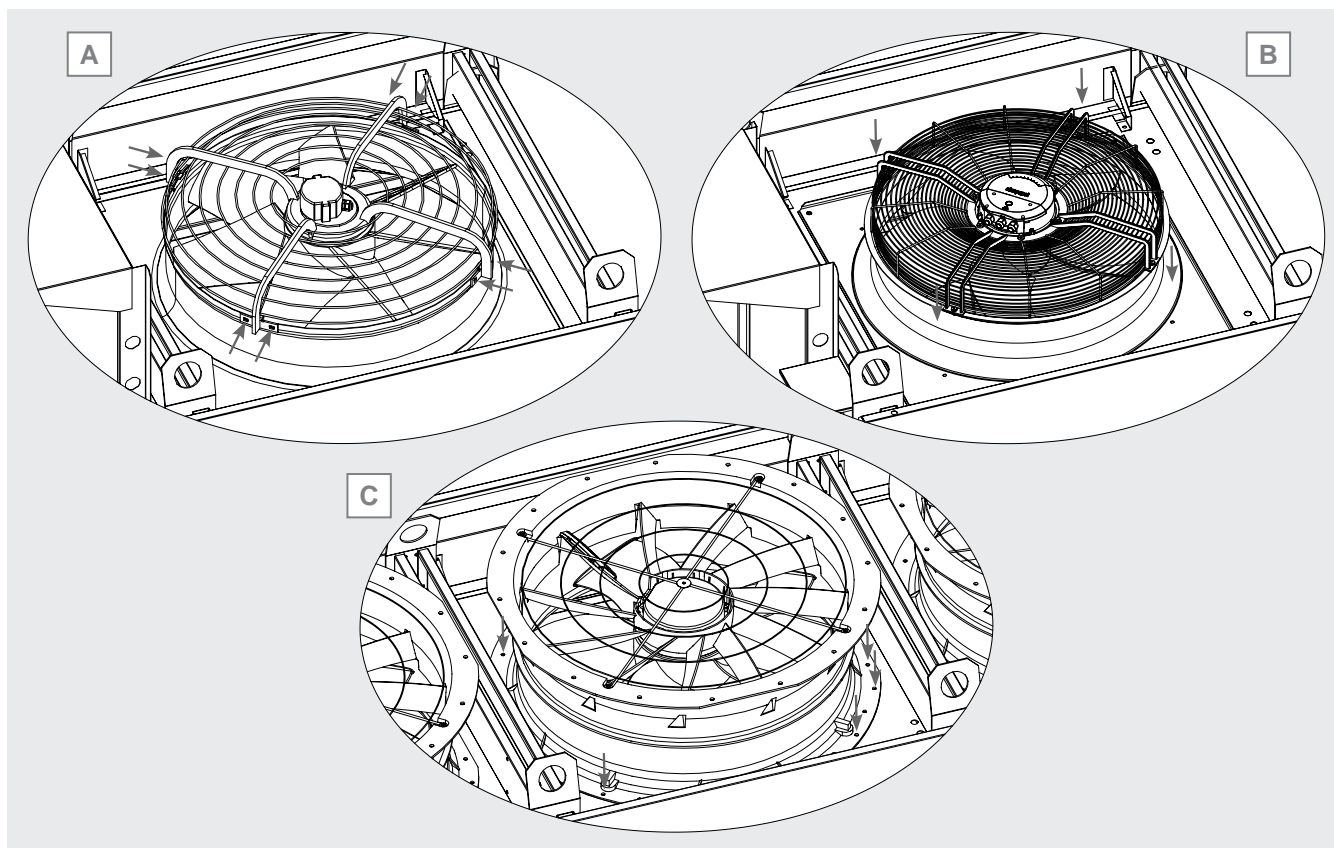

Figure 35
- radially attached motorfan: the motorfan grille is attached to the fan shroud installed on the model by radially attached screws. See Figure 35 A.
- planar-attached motorfan: the motorfan grille is attached to the fan shroud installed on the model by screws vertically fixed on a flange. See Figure 35 B.
- motorfan with integrated fan shroud: the motorfan is integrated into a fan shroud that is attached directly to the model's conveyor. See Figure 35 C.
- radial and planar-mounted motorfan: locate the screws that attach the motorfan grille to the fan shroud and remove them completely. Store them in a suitable place. See Figure 35 A and B.
- motorfan with integrated fan shroud: locate the screws that attach the fan shroud to the model and remove them completely. Store them in a suitable place. See Figure 35 C.